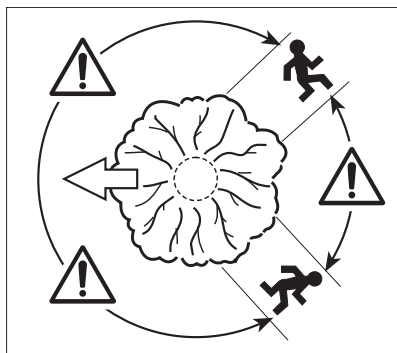

Fig. 26
3. An escape path should be planned and cleared as necessary before cuts are started. The escape path should extend back and diagonally to the rear of the expected line of fall (Fig. 26).